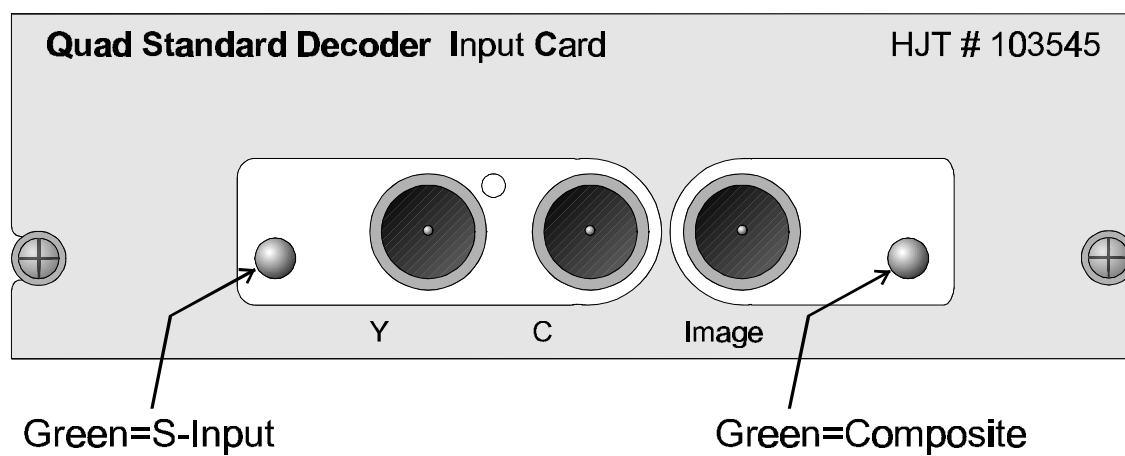

Figure 5-22 Quad Standard Decoder VIC
- ❑ For **Quad Decoder VICs**, there are two distinct input connections (see Figure 5-22). The input connector at the right, is for Composite (C-VID). The two connectors at the left, labeled Y and C are for S-Vid. The selection of one of these inputs is made by editing the second number in the VIC column (see editing VICs, below) and using separate channels for their sources.
- 7.3 If using a Quad Standard Decoder VIC, select 1 or 2. When selecting #1, the LED on the left side for Y/C (*see Figure 5-22*) lights up when this channel is active. When selecting #2, the LED on the right side of the VIC lights up when this channel is active. Only one of these LEDs can light up at any one time.